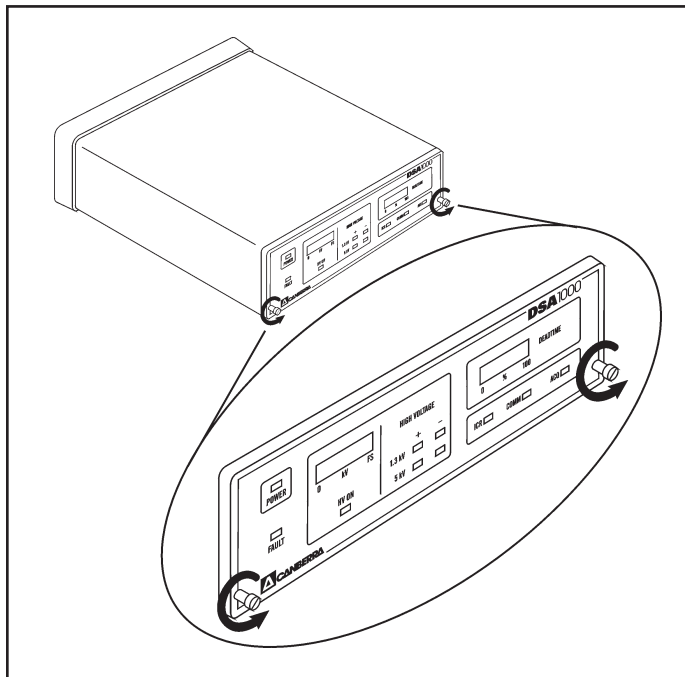

Figure 39 Removal of the Front Panel
1. Remove the DSA-1000 front panel assembly, turn the front panel thumb screws counter clockwise to remove the front panel, see Figures 39 and 40. The screws are installed finger tight and should turn easily without the requirement for tools. Its best to remove both screws simultaneously, set the front panel aside.